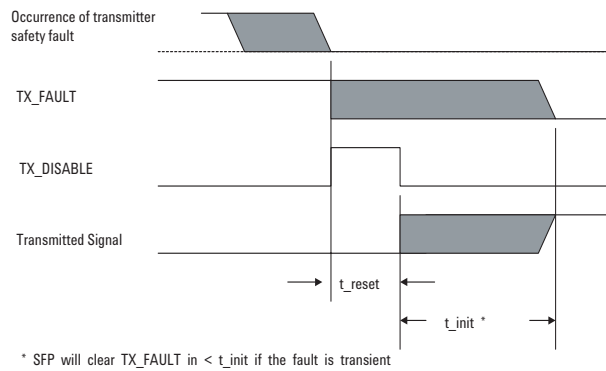

Figure 8. Successful recovery from transient safety fault condition
This can be (1) failure of the laser driver or (2) end-of-life of the laser. Under these conditions, the laser will be deactivated within the assert time. TX_FAULT also requires a $4.7\text{k}-10\text{k ohm}$ pull-up resistor external to the module, i.e. in the host system $Host_V_{cc}$, as shown in Figure 13. The pull-up voltage is between 2.0 V and $V_{ccT}(V_{ccR}) + 0.3\text{ V}$. Conditions (1) and (2) are latched, and for diagnostic purposes only, may be reset by toggling TX_DISABLE high for at least t_{reset} . See Table 11 and Figure 8.